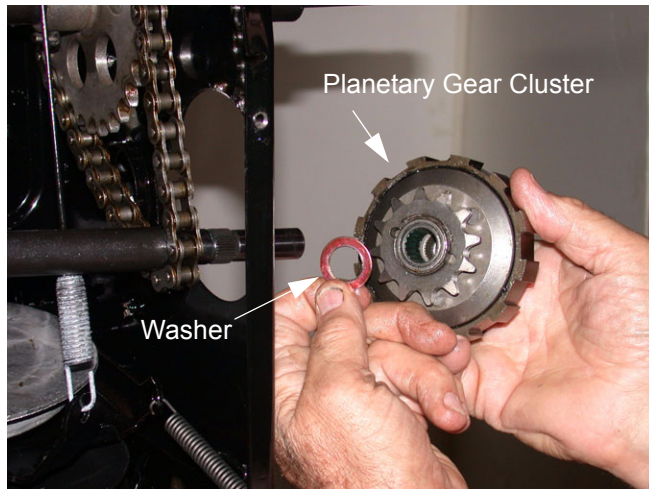

Figure 29
- 12.3. Remove the right planetary gear cluster from the drive shaft. See Figure 29.